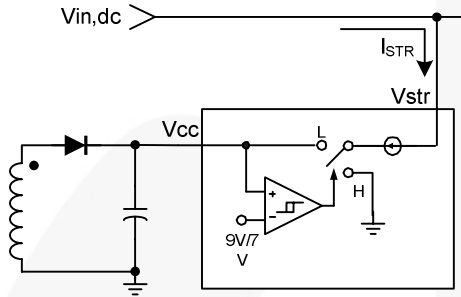

Figure 15. Internal Start-up Circuit
1. Start-up: At start-up, the internal high-voltage current source supplies the internal bias and charges the external V_{CC} capacitor, as shown in Figure 15. When V_{CC} reaches 9V, the device starts switching and the internal high-voltage current source stops charging the capacitor. The device is in normal operation provided V_{CC} does not drop below 7V. After start-up, the bias is supplied from the auxiliary transformer winding.